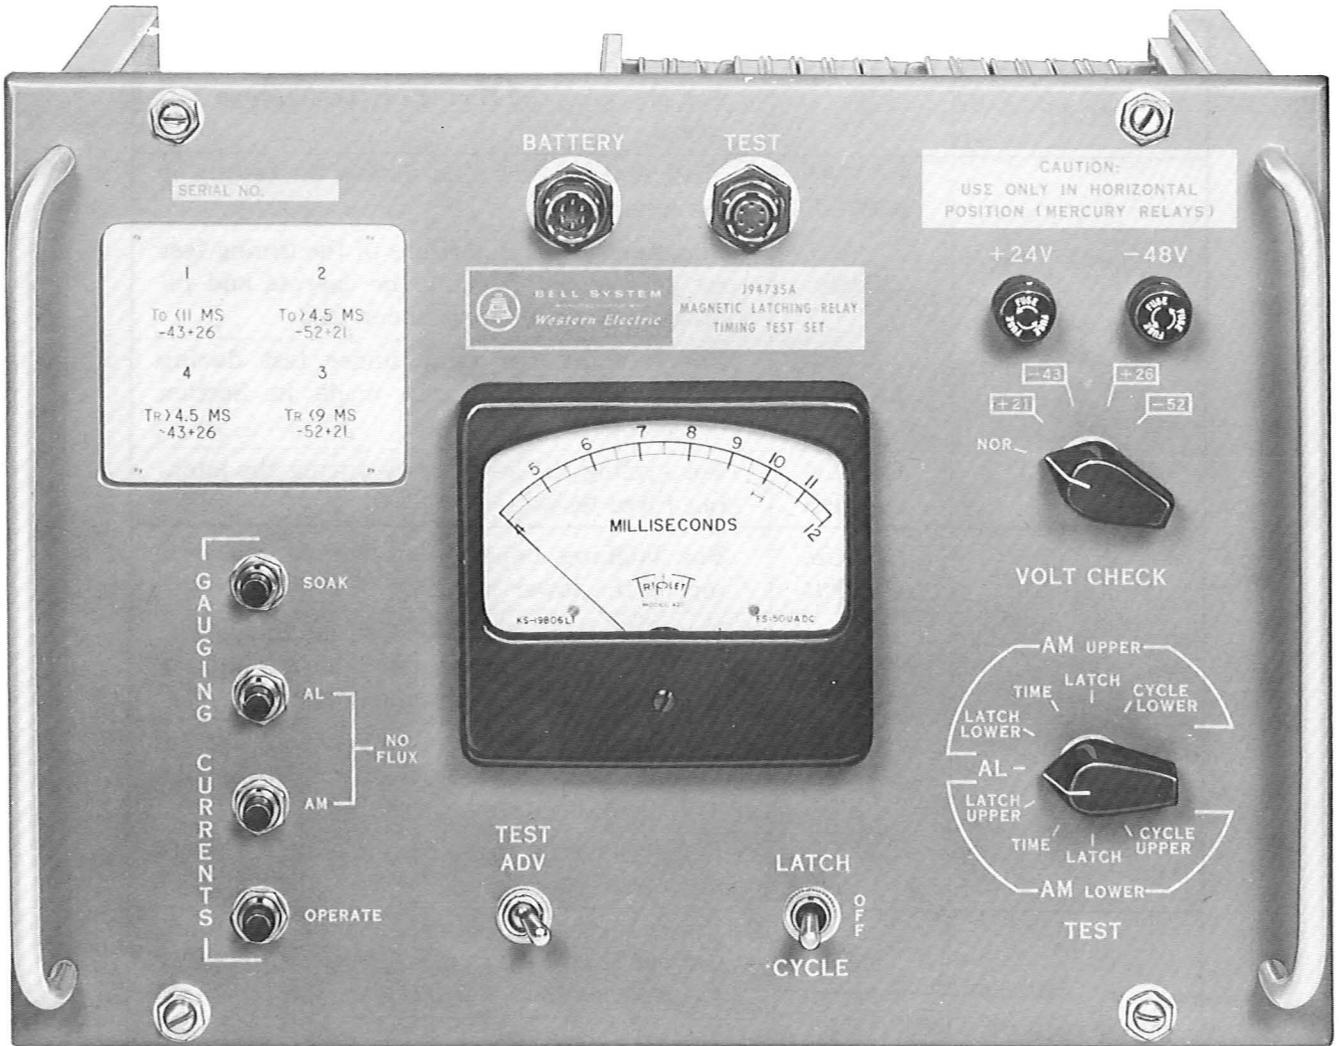

Fig. 2—194735A Timing Test Set, Front Panel
**2.01** The controls for the timing test set (Fig. 2) and the purpose of each setting are listed in Tables A, B, and C as follows: